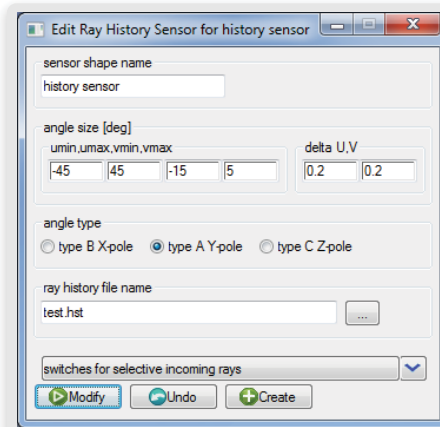

Figure 2. The Create Ray History Sensor dialog box parameters
Step 1: We set up an RHS that will gather the ray origins during the simulation. The corresponding dialog box is shown in Figure 2. In short, the user can provide the sensor's dimensions (here: [-45,45] x [-15,5]), according to the domain of the beam pattern), the angle type, a switch to reject incoming rays directly coming from the light source, and a file name to store the ray accumulations for later use.